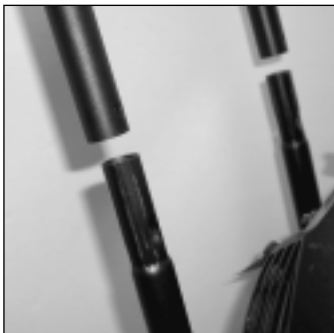

Figure 1 – Assemble Handle
1. Slide the handle assembly over the lower legs of the cart base. Use the standard nut and bolt to secure the right rear leg. See Figure 1.